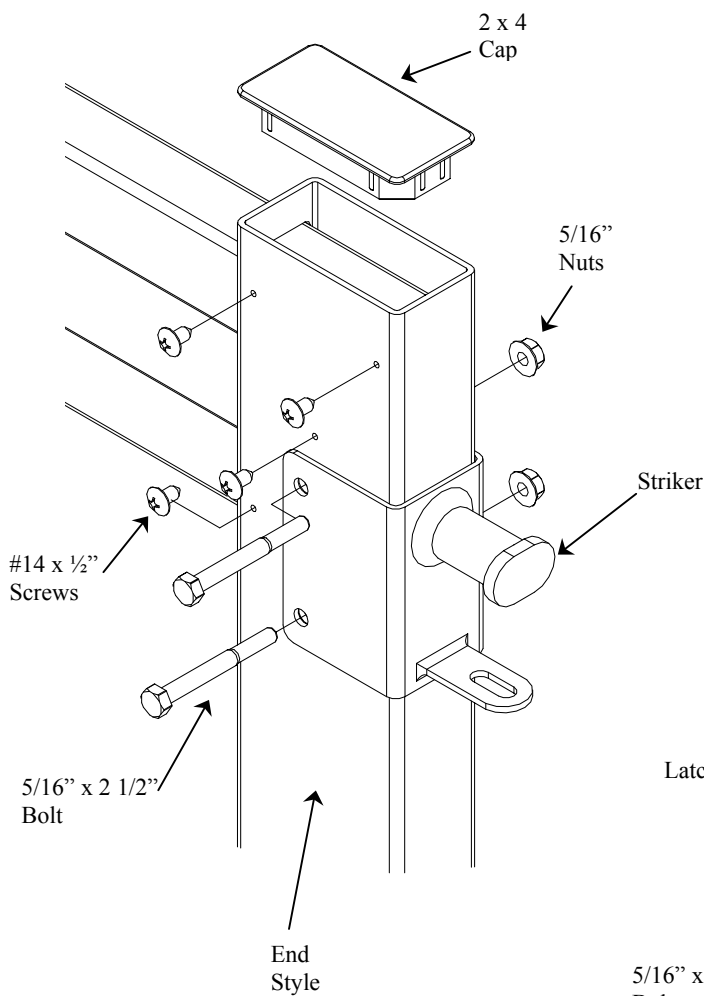

Fig 6
- 4) Position the striker on the gate end style to match up with the gate latch. Remove any screws on the end style that the striker will cover. Mark the location of the holes and drill 5/16" diameter through holes. Secure striker with 5/16" x 2.5 bolts and hardware provided. (Fig. 6)